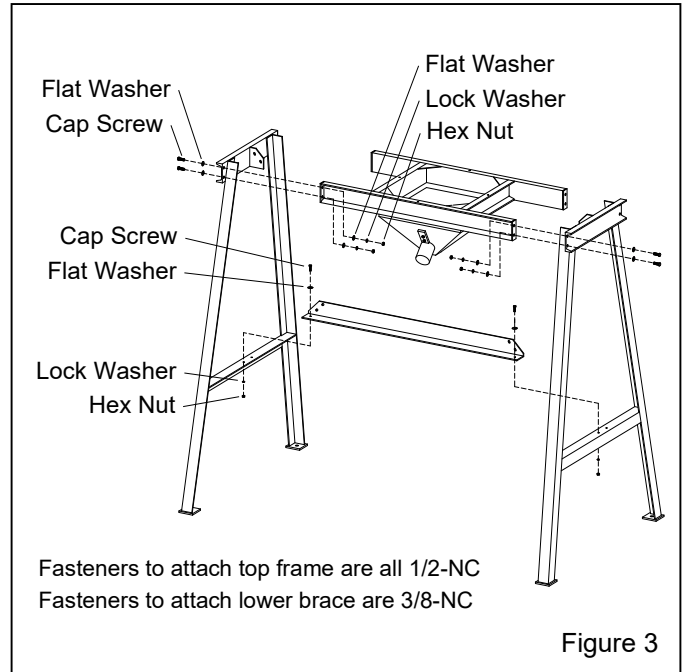

Figure 3
2.1 Refer to Figure 3. Loosely attach the top frame and lower brace to the leg assemblies. The fasteners will be secured after the assembly is completed and squared. Fasteners used to attach the top frame assembly are all 1/2-NC; fasteners used to attach the lower brace are all 3/8-NC.